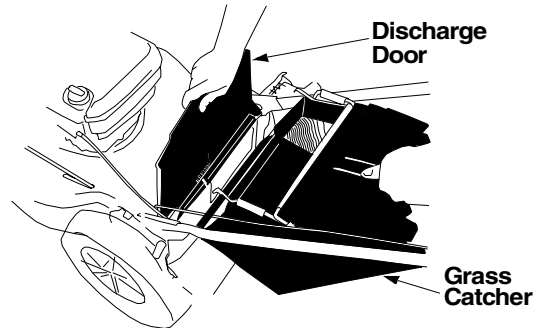

Figure 11
- Place the hooks, found on both sides of the grass catcher frame, over the chute door pivot rod at the rear of the mower. Release the rear discharge door. See Figure 11.